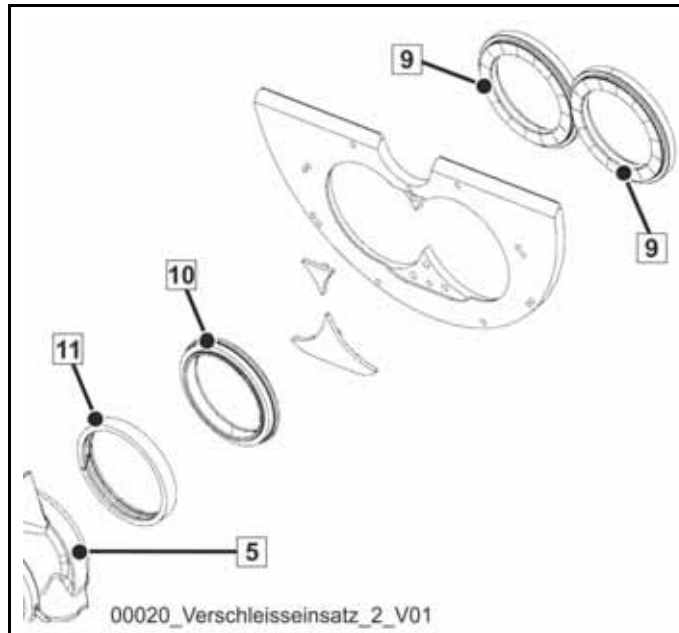

Fig. 342
A two-piece wearing insert (9) (Fig. 342) made of white cast iron with an appropriate support plate is available as special equipment.